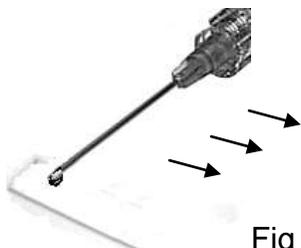

Fig 2: Brush off droplet onto origin of the QC strip (don't squirt Tc99m or you risk creating a mess)
7. Using hemostats to grip the top of the strip. Cut at the designated site (See Figure 2). Place both halves in separate counting vials
- The spot must be very small. Try “brushing” a drop off the tip of the syringe onto the strip rather than attempting to push it out with the plunger of the syringe. Always use shielding and gloves (See figure 2).